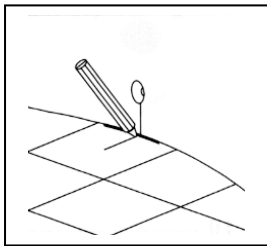

Fig 4
5) To work out the length that the DWV pipe needs to be, first confirm that the ceramic spigot on the pan you have is the same distance from the back of the pan to the start of the ceramic spigot as per detail (I) in the dimension table. Calculate the amount the pan spigot will go into the pan collar you have selected to use, (not supplied with the toilet) and allow a small clearance, appropriate to the pan collar selected, off dimension (I)
6) Place the toilet pan in the position in which it is to be installed and mark the outline of the pan on the floor under the fastening holes. Mark the centre point on the drawn line under the position of the centre of the fastening holes. (See Fig 4).